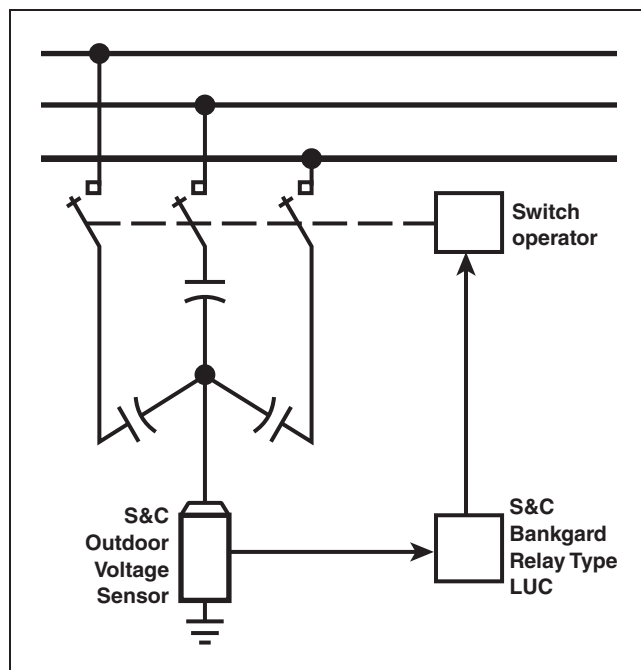
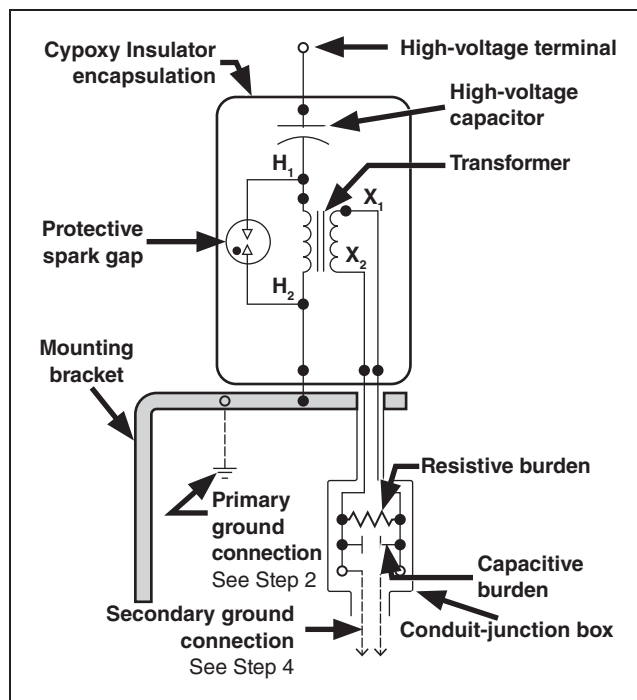
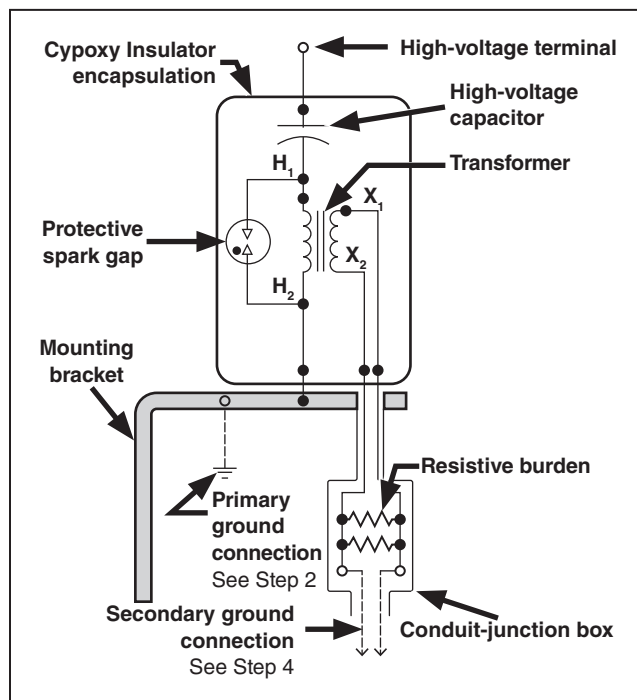

Figure 1. Application diagram.
Figure 3. A schematic diagram of S&C Outdoor Voltage Sensor with a standard resistive and secondary capacitive burden.
Figure 4. A schematic diagram of an S&C Outdoor Voltage Sensor with a standard resistive burden.
The S&C Outdoor Voltage Sensor is a capacitance-type voltage-monitoring device intended only for neutral-to-ground connection applications on ungrounded wye-connected shunt capacitor banks. It is typically used with the Bankgard™ Relay for protection of small to medium-sized station-type banks on 60-Hertz● systems rated through 25 kV. See Figure 1.
- STEP 4.** Make the secondary connections in accordance with the wiring diagram furnished with the Bankgard Relay. See Figure 3 and Figure 4. The secondary circuit should be grounded at one point only, preferably at the Bankgard Relay. Other locations of the single grounding point are permissible, however, such as at the voltage sensor. See Figure 1 on page 5.